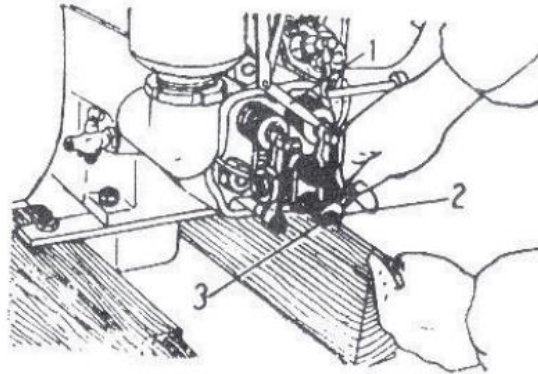

Fig. 10- Ajustar a folga da válvula
3. Loosen the locking nut and turn the rocker adjusting screw with a screwdriver to adjust the valve clearance to the specified value (the intake valve gap is 0.35mm, and the exhaust gap is 0.45mm) using a gauge inserted between the valve stem and the rocker (Fig.10).